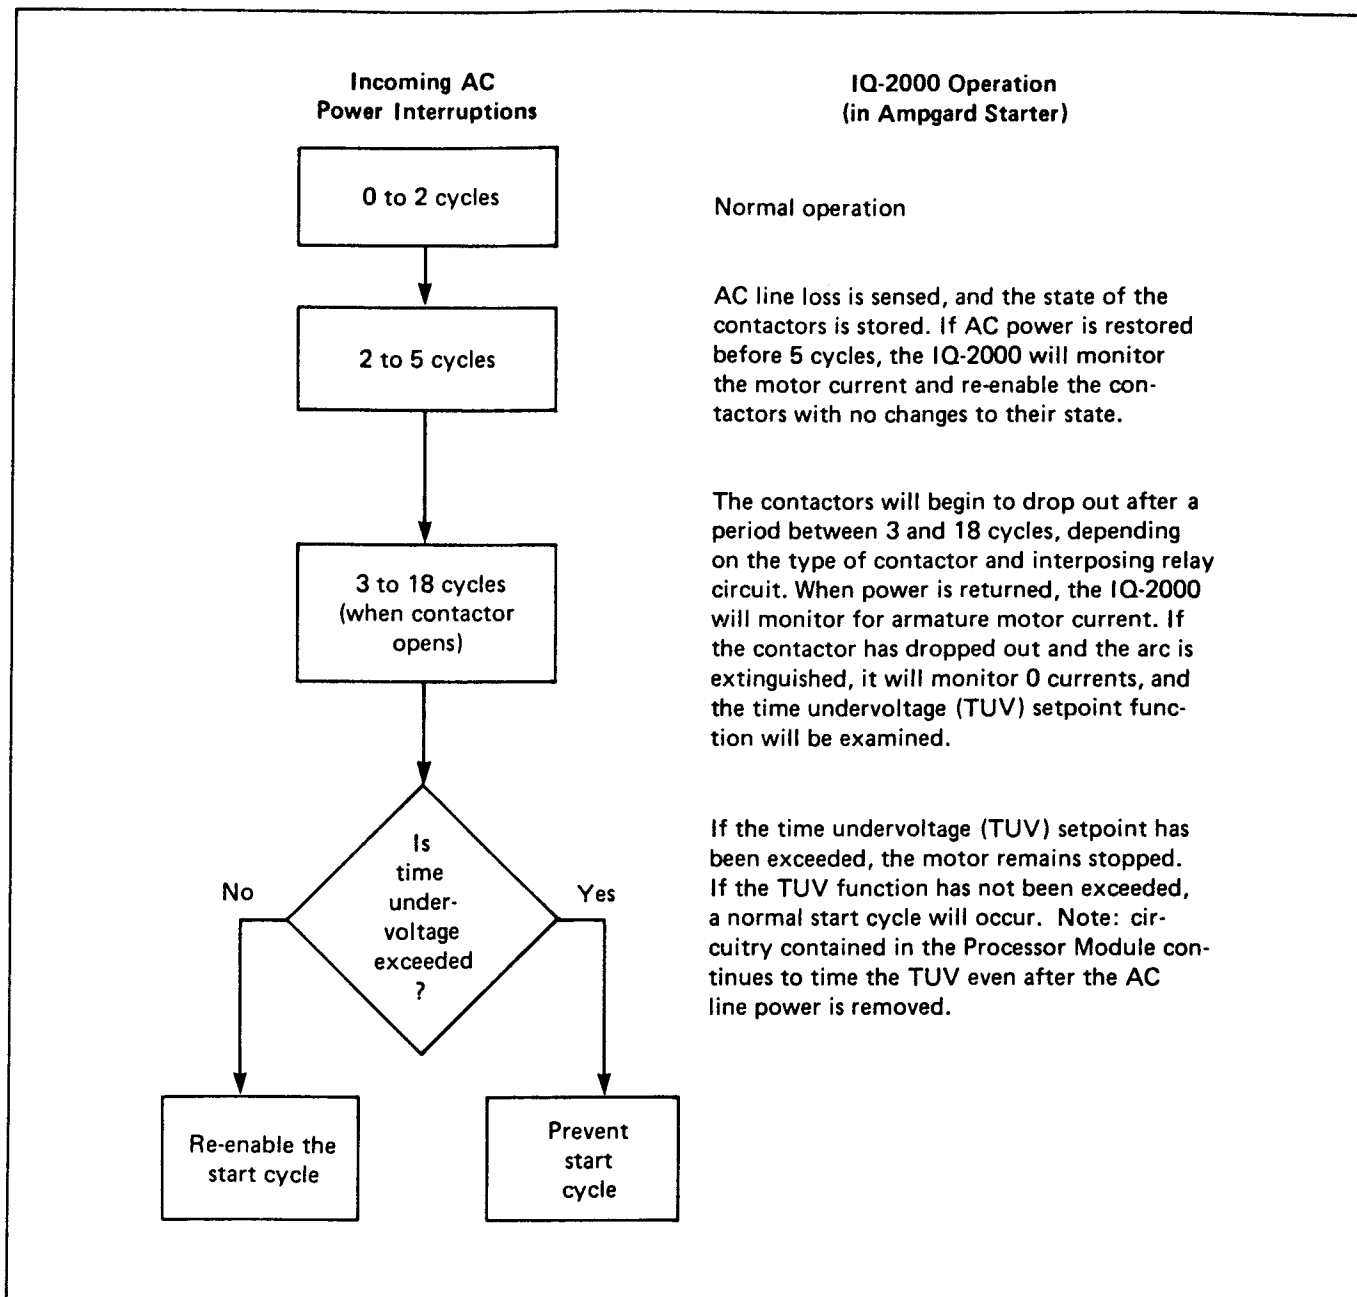

Figure 5.8 – AC Interrupt Events Flow Chart
5.3 AC Line Interruptions – The IQ-2000 is designed to operate in a controlled and predictable manner during incoming AC line interruptions. The events flow chart shown in Figure 5.8 lists the predictable events which occur during various AC line interrupts. The chart assumes a complete, or nearly complete, loss of AC power.